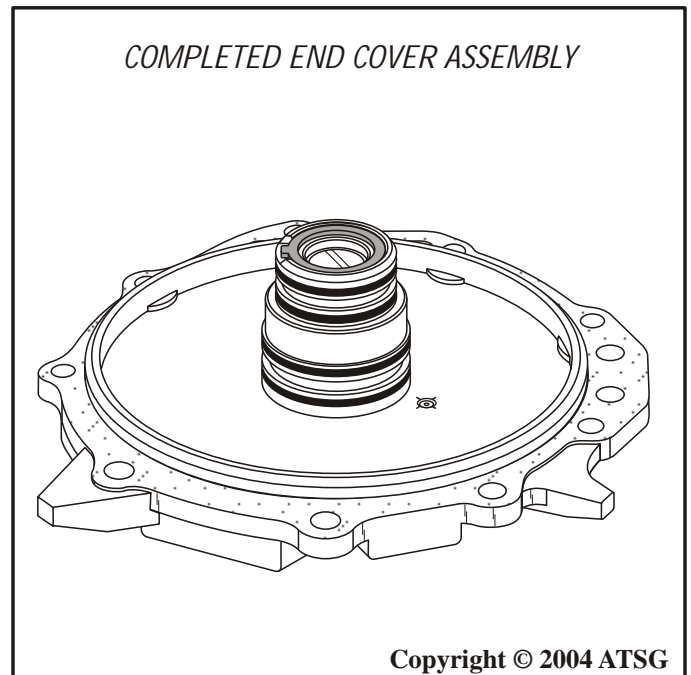

Figure 73
7. Set the completed end cover assembly aside for the final assembly process (See Figure 73).